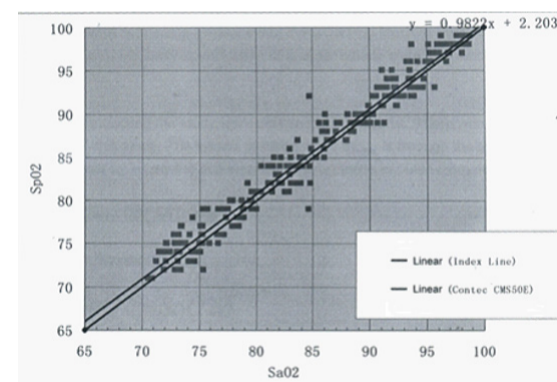

Figure 6: SpO2 regression plot
- Clinical Trial: SpO2 regression plot & Bland-Altman plot, Refer to Figures 6 and 7.**